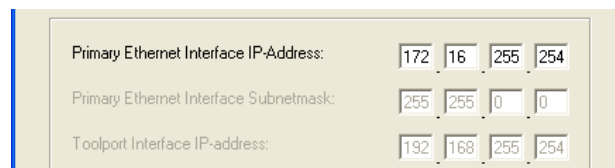

Figure 50. The IPConfig dialog box with factory default setting.
- Click **Connect** and then press the **Init** push-button on the Controller until the **Run LED** starts to blink. Wait about a minute until the default IP address appears, see Figure 50.